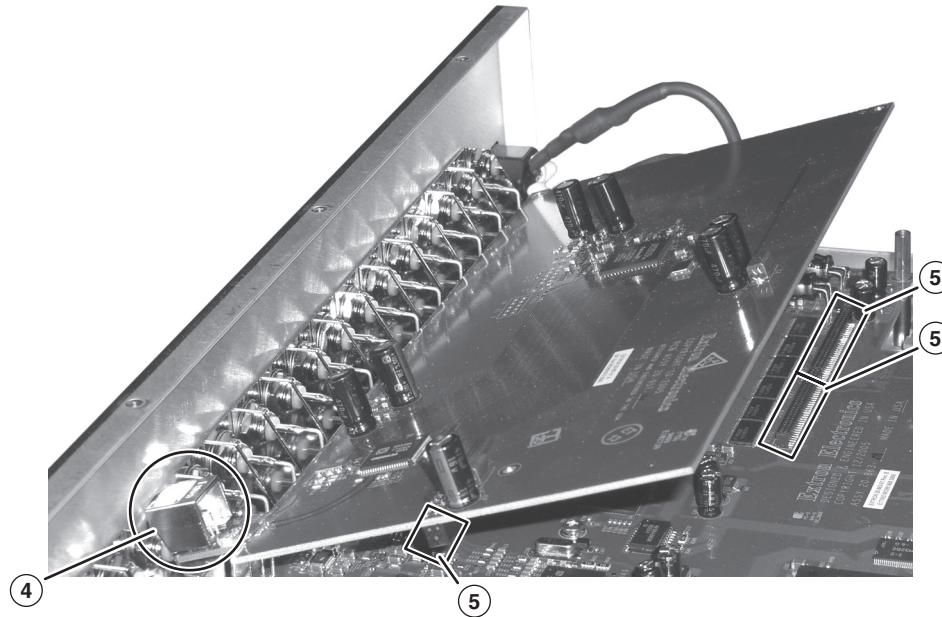

Figure 3 — Input board installation
3. From the inside of the switcher, pop the cover out of the rear panel connector port (③).
- See figure 3. Tip the input board up and guide its output connector through the rear panel connector port (4).
- See figure 3, above. Align the connectors on the main board and board (5). Gently apply pressure to carefully mate the input board with the main board.